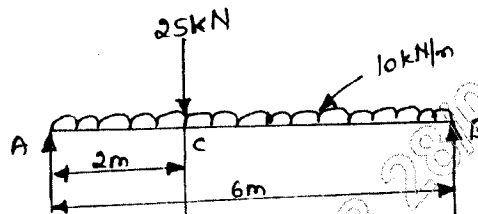

Fig.Q.6(b)
- b. A simply supported beam of span 6m is subjected to a concentrated load of 25kN acting at a distance of 2m from the left end. Also subjected to an uniformly distributed load of 10kN/m over entire span as shown in Fig.Q.6(b). Draw the bending moment and shear force diagrams indicating the maximum and minimum values. (10 Marks)